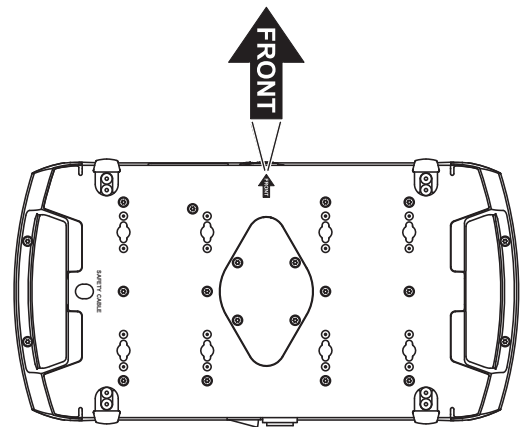

Figure 6: Front of fixture
4. Block access under the work area. See Figure 6. Note the position of the arrow marked **FRONT** on the base of the fixture. Working from a stable platform, hang the fixture on the truss with the arrow marked **FRONT** facing towards the area to be illuminated. Tighten the rigging clamps.